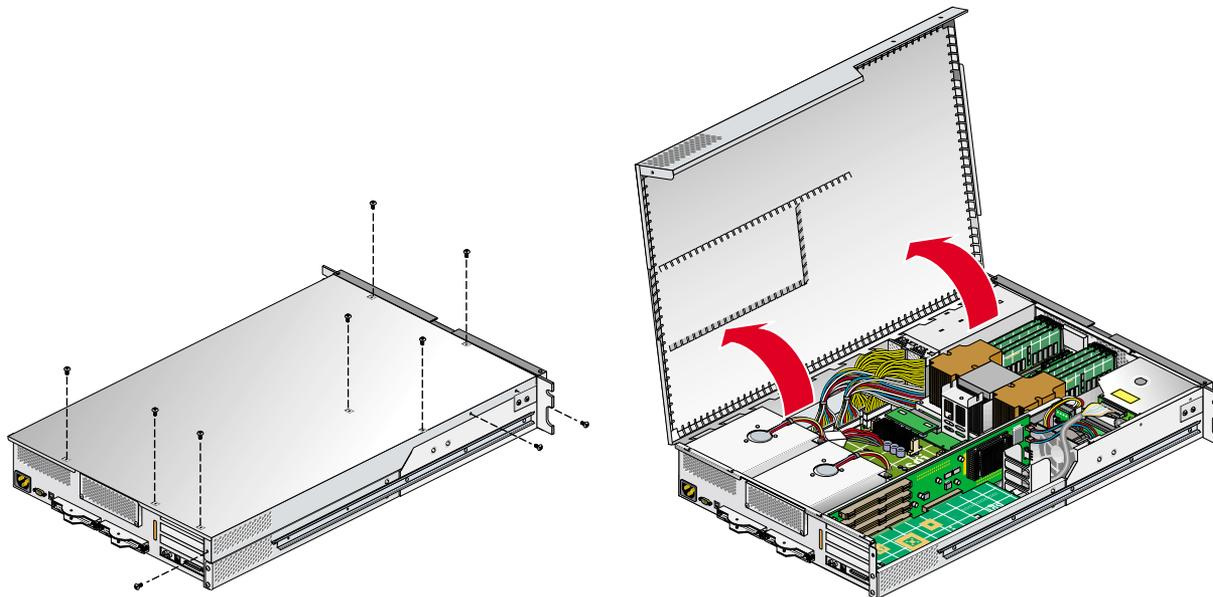

Figure 7-1 Opening the System Cover
1. To remove the module's top cover and access the internal system components, remove the ten Phillips screws as shown in Figure 7-1.